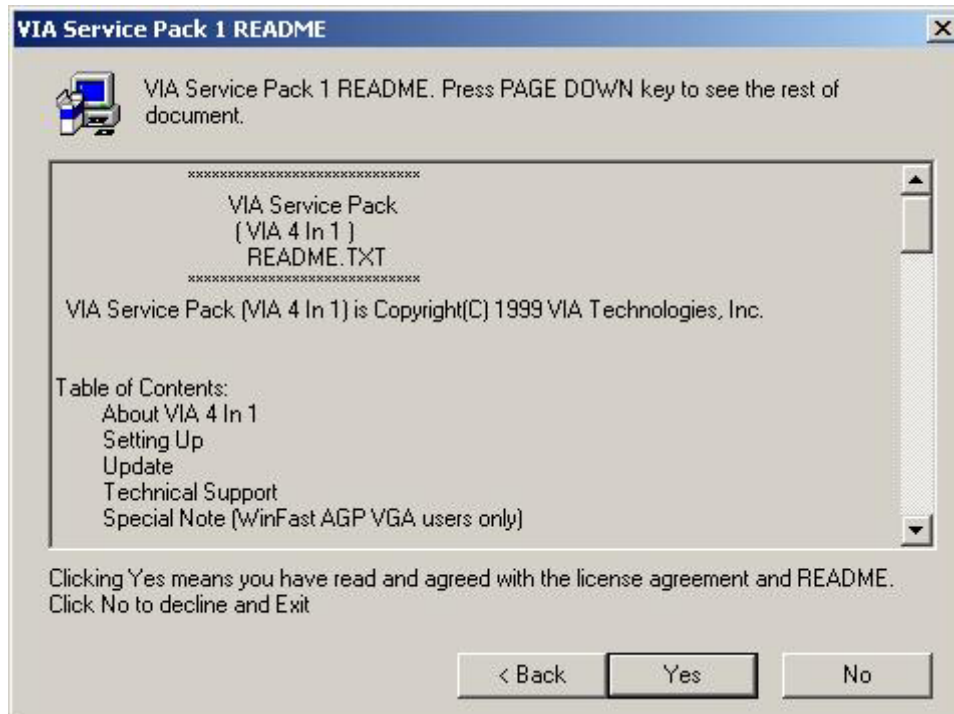

Figure 6-4: Readme Information
Step 5: The “Readme” in **Figure 6-4** appears. Click “Yes” to continue.